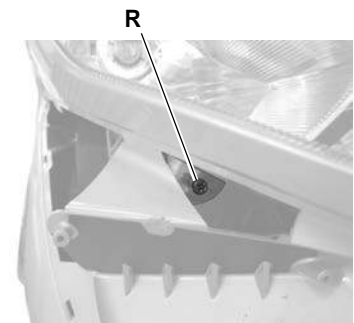

Fig. 37b
- With the aid of a screwdriver, turn the screw for adjusting the projector (R - Fig. 37b), bearing in mind that **turning clockwise lowers the beam** and vice versa